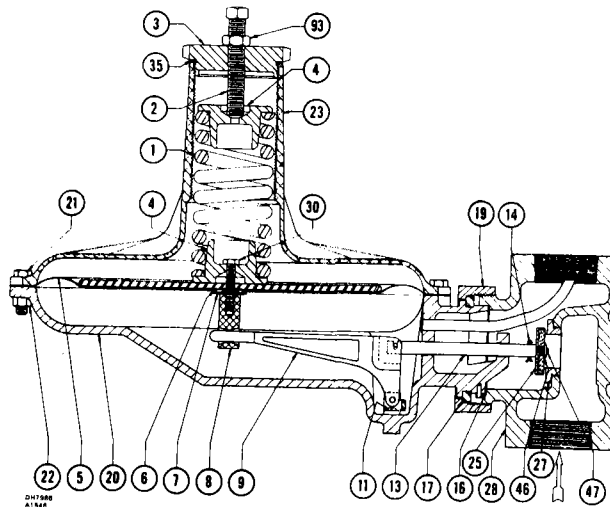
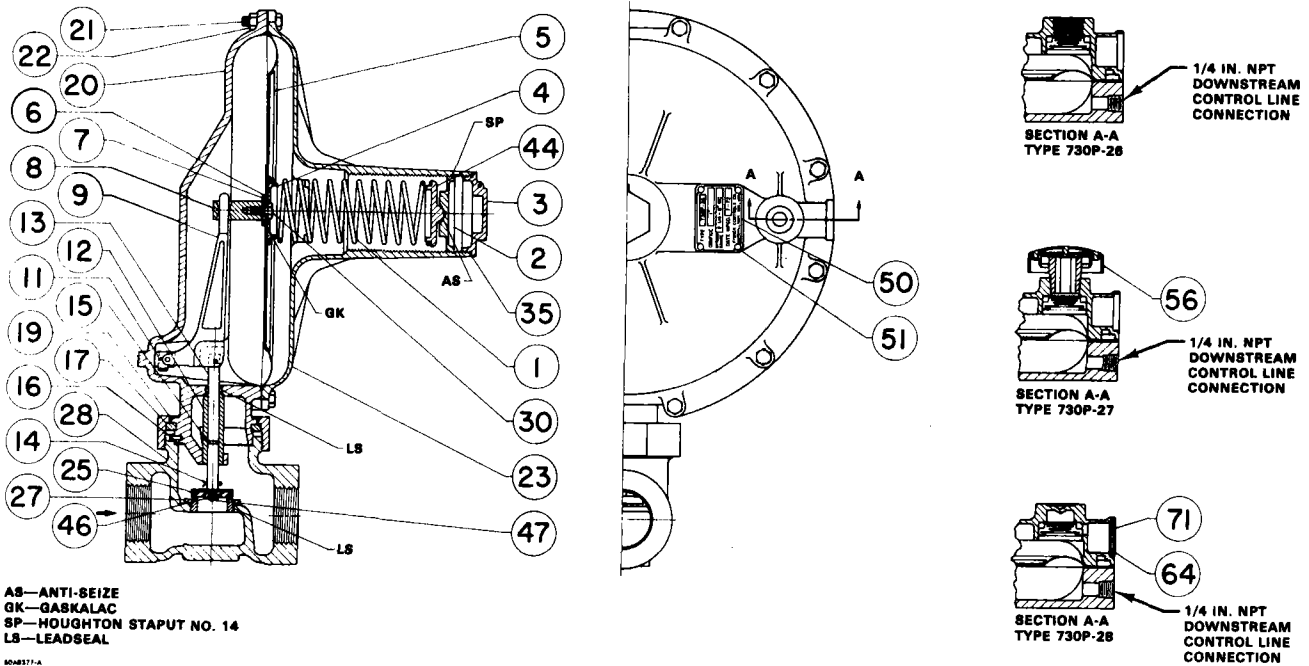

Figure 4. Type 730B-26 Regulator
Figure 5. Type 730P-26 Regulator with Downstream Control Line Connection
To adjust the outlet pressure setting on all 730B and 730P Series regulators, turn the adjusting screw into the upper casing to increase the setting or out of the upper casing to decrease the setting. For the Type 730B-26 regulator, loosen the hex nut (key 93, figure 4), turn the adjusting screw (key 2, figure 4) to obtain the correct setting, and tighten the hex nut against the closing cap (key 3, figure 4). For all other 730B and 730P Series regulators, remove the closing cap and closing cap gasket (keys 3 and 35, figure 3 or 5), turn the adjusting screw (key 2, figure 3 or 5) to obtain the correct setting, install the gasket, and thread the closing cap onto the upper casing.
Key numbers refer to figures 3, 4, and 5 unless otherwise noted: figure 3 illustrates all 730B Series regulators except the Type 730B-26 regulator; figure 4 depicts the Type 730B-26 regulator; and figure 5 shows the Type 730P-26, -27, and -28 regulators.
2. Remove the closing cap and closing cap gasket (keys 3 and 35, figures 3 and 5), or loosen the hex nut (key 93, figure 4).
3. Turn the adjusting screw (key 2) counterclockwise out of the upper casing (key 23) to relieve spring compression.
4. Unscrew the cap screws and hex nuts (keys 21 and 22), and remove the upper casing (key 23).
5. Lift the spring (key 1) and upper spring seat (key 4, figure 4 or key 44, figures 3 and 5) off the diaphragm and plate assembly (key 5).
6. Unscrew the cap screw (key 30) to disassemble the lower spring seat (key 4), the diaphragm and head assembly (key 5), the lower diaphragm plate (key 6), and the lower diaphragm head gasket (key 7).
7. Inspect the pusher post (key 8) and lever (key 9). If bent or damaged, remove them by unscrewing the two machine screws (key 11).
8. Install the lever assembly (key 9), if removed, connect the valve stem (key 13) to the lever assembly, and secure the lever assembly with the machine screws (key 11).
- Lower diaphragm head gasket (key 7),
- Lower diaphragm head (key 6),
- Diaphragm (key 5) pattern side up,
- Diaphragm plate (key 5), and
- Lower spring seat (key 4).
10. Insert and tighten the cap screw (key 30) to secure the parts to the pusher post (key 8).
11. Install the assembled parts in the lower casing (key 20). Make sure that the lever (key 9) fits in the pusher post (key 8) and that the holes in the diaphragm align with the holes in the lower casing.
12. Place the spring (key 1) on the lower spring seat (key 4), and then install the upper spring seat (key 4, figure 4 or key 44, figures 3 and 5).
13. Position the spring casing (key 23) on the diaphragm, and insert the cap screws and hex nuts (keys 21 and 22). Tighten them only finger tight.
14. Turn the adjusting screw (key 2) clockwise into the spring casing to ensure proper slack in the diaphragm, and then tighten the cap screws and hex nuts (keys 21 and 22).